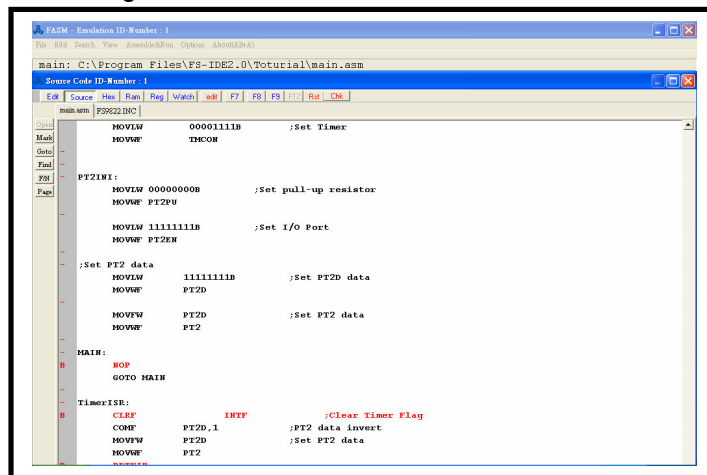

Figure 5.2 Successful Setting of Breakpoints
(1) Set-up of Mouse Click
Step 2: Double click the left button of the mouse before the pre-set code of the breakpoint; successful setting is shown as the Figure 5.2.
(2) Set-up of Tool Bar
Step 3: Select 『 Assemble&Run-> Set Breakpoint 』 from the tool bar, successful setting is shown as the Figure 5.2.